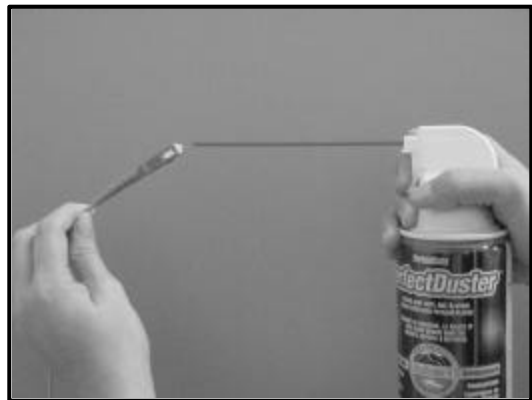

Fig.3 – CDA cleaning (cable)
1. Blow the fiber surface with a stream of Clean Dry Air (CDA) as shown in *Figure 3*. This will dislodge larger, loose particles.